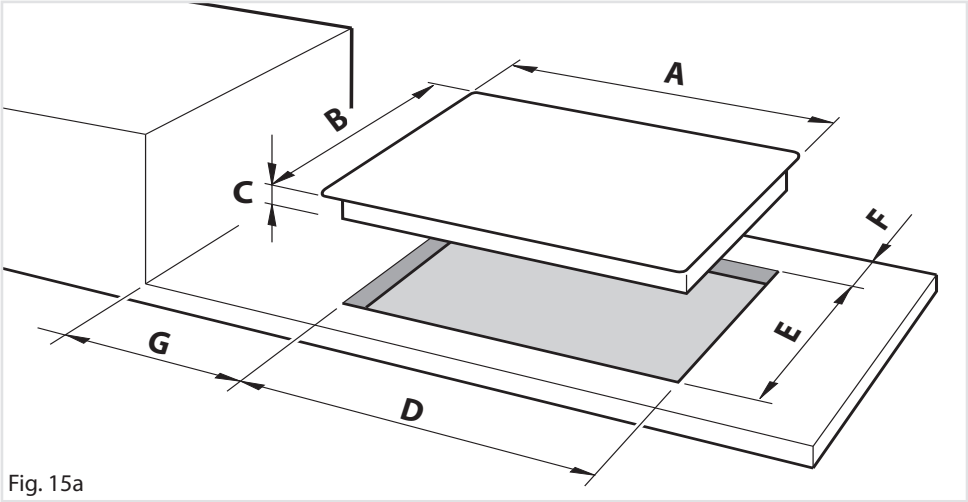

Fig. 15a
In order to install the cooker top into the kitchen fixture, a hole with the dimensions shown in fig. 15a has to be made, bearing in mind the following:
- The cooker top must be kept no less than 200 mm away from any side wall (from side edge of cutout - figs. 15a, 15b).
- The hob must be installed at least 60 mm from the wall (from rear edge of cutout - fig. 15a).